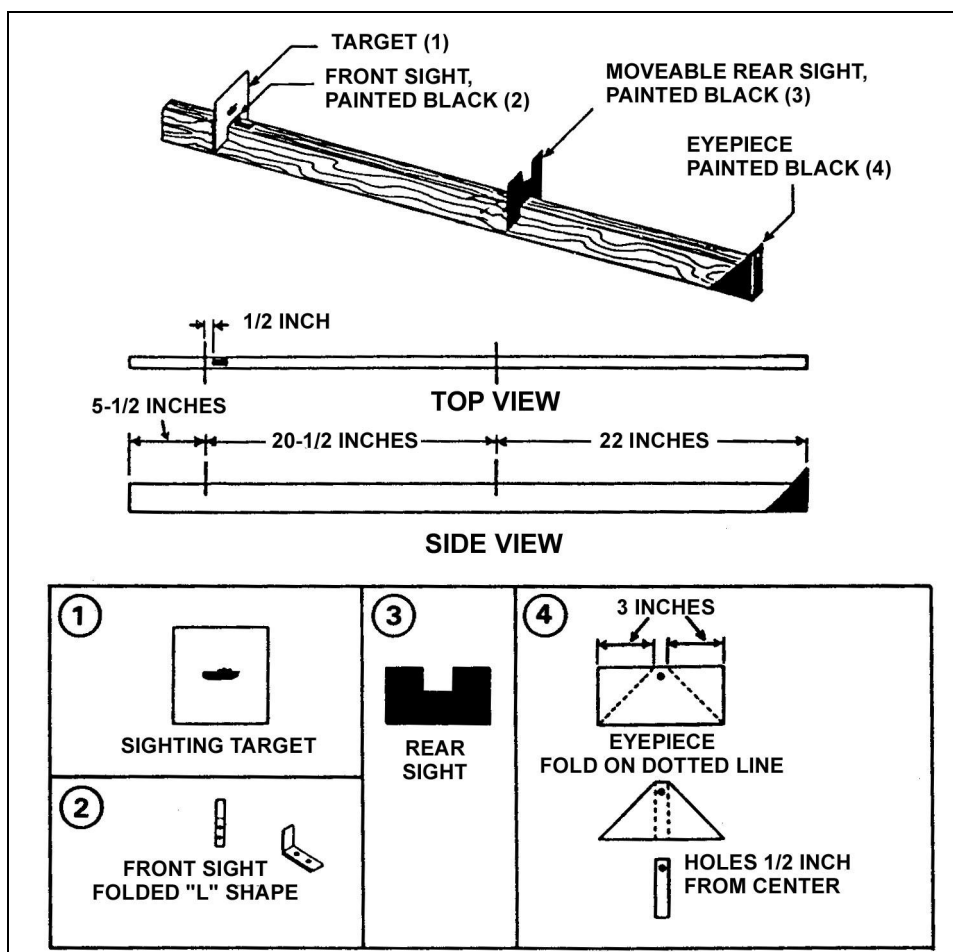

Figure 4-8. Sighting bar.
(1) This exercise teaches how to obtain the correct sight picture, and also teaches alignment methods. Sight alignment means lining up the front and rear sights, with the top center of the front sight blade appearing in the center of the rear sight. Sight picture means lining up the front sight, the rear sight, and the target, with the tip of the front sight blade just touching the bottom center of the target. Gunners must show skill in aligning sights correctly and in getting the correct sight picture, using a sighting bar (Figure 4-8). Gunners must correctly show the point of aim, after sight alignment, 8 out of 10 times.